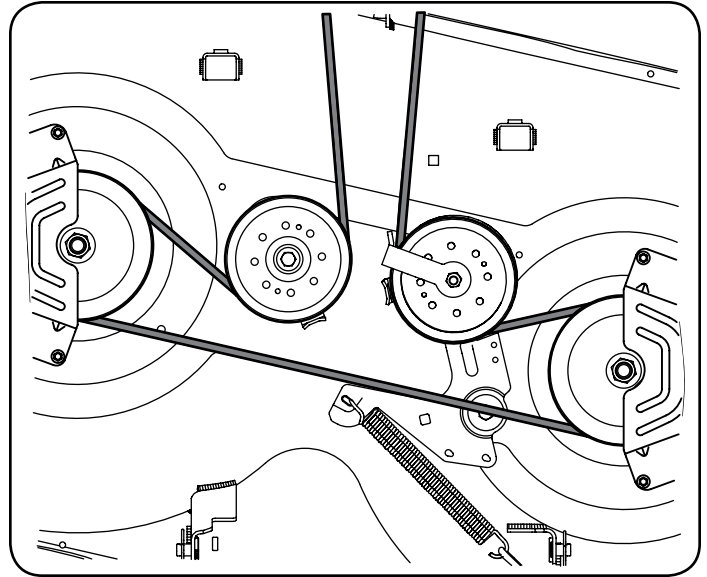
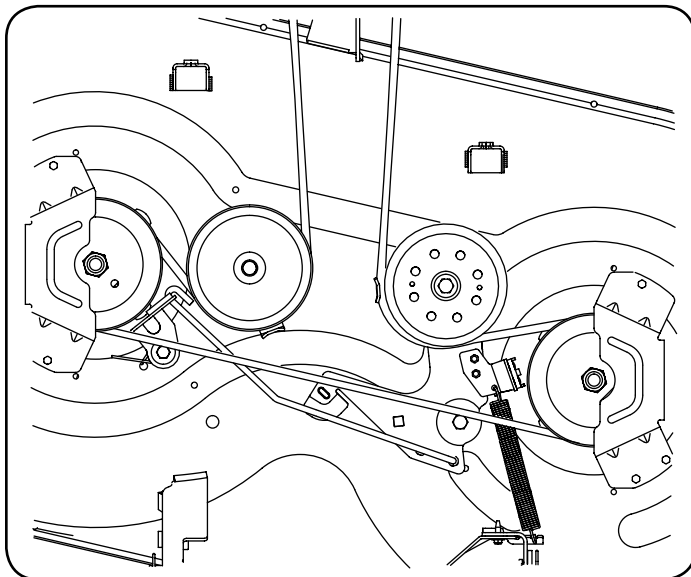
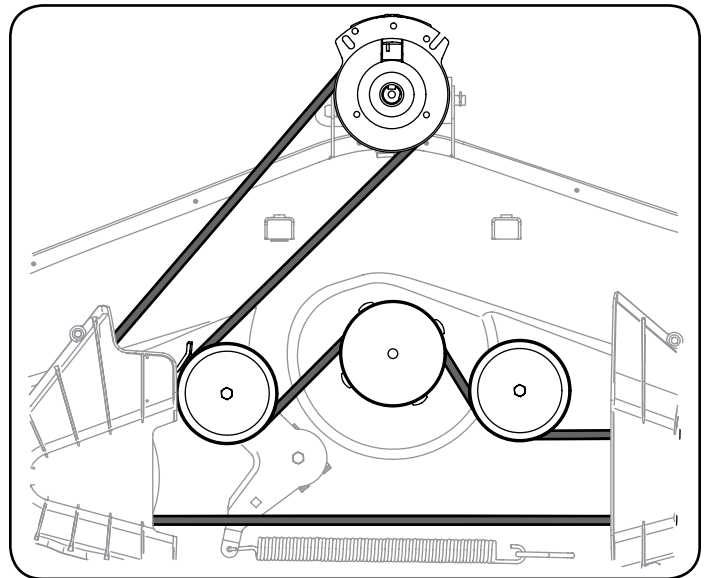

Figure 35
Figure 34
Figure 36
- Route the new belt as shown in Figure 34 for 42" Decks, Figure 35 for 46" Decks and Figure 36 for 50" and 54" Decks.